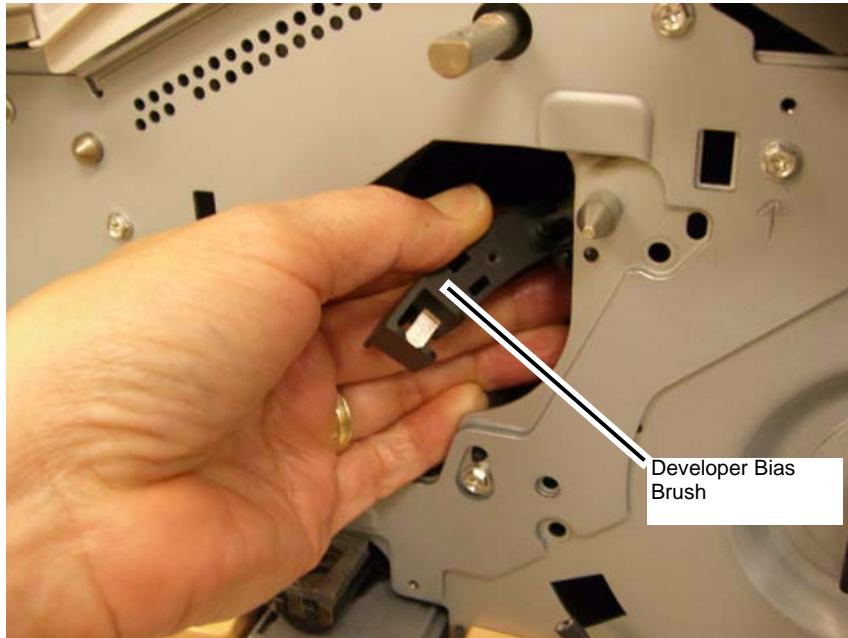

Figure 3 Removing the Developer Bias Brush
8. Remove the Developer Bias Brush. (Figure 3)